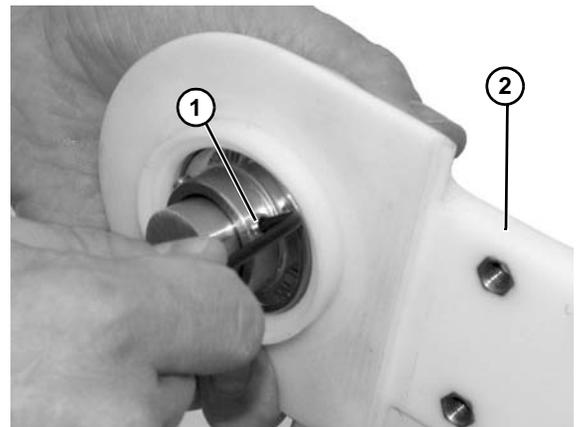

Figure 45
- Loosen set screws (Figure 45, item 1) and remove tail plate (Figure 45, item 2).